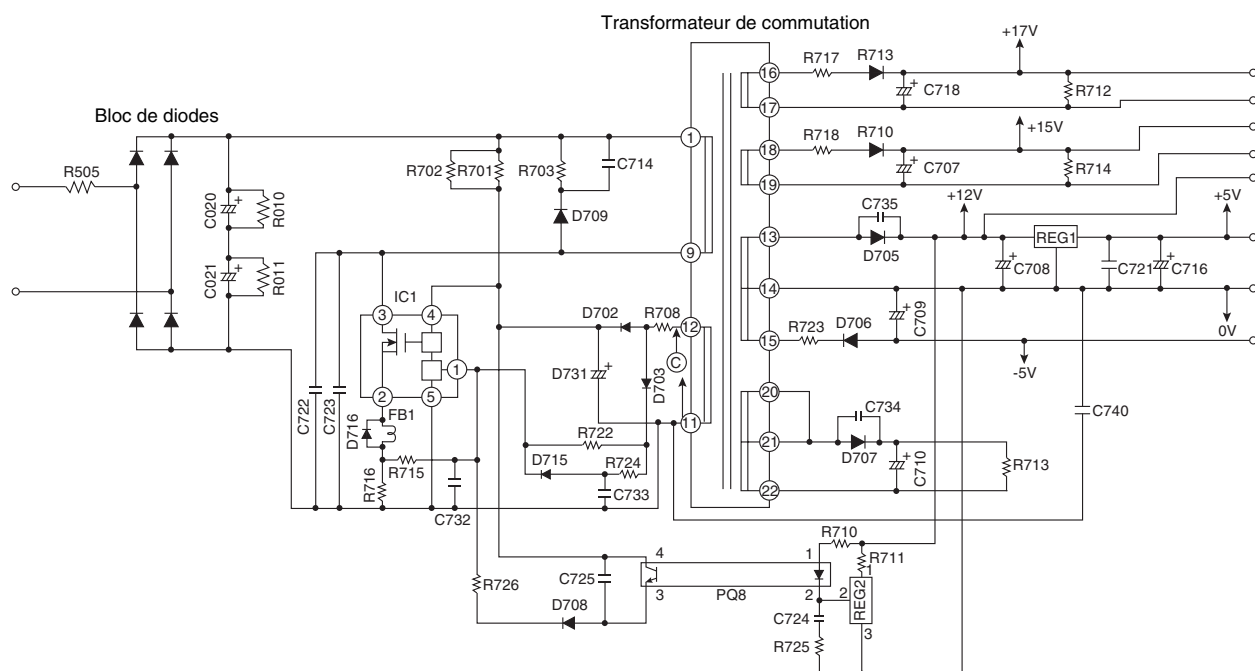

Fig. 4-1 Circuit d'alimentation pour le circuit imprimé.
(1) Shifting from OFF to ON
- DC about 330V is applied from smoothing capacitors C020 ⊕ and C021 ⊖ in the control power circuit. With this power, current flows to pin ④ of IC1 via R701 and IC1 starts to turn ON. Since voltage in the direction of arrow generates at point ③ at the same time, current passing through R708 and D702 is positive-fed back to IC1.
- La figure 4-1 représente le circuit d'alimentation pour le circuit imprimé et la forme d'onde à chaque point.